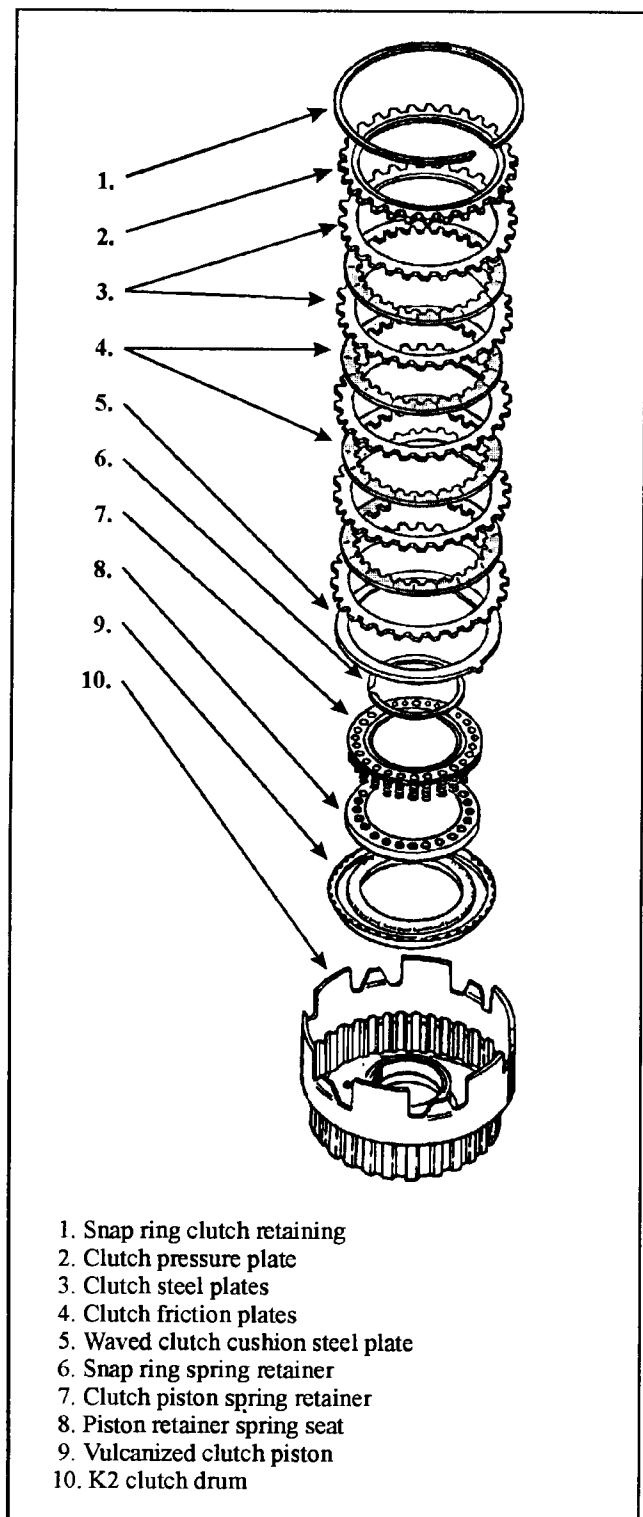

Figure 75
17. Remove the pressure plate along with the steel plates the friction plates and the waved cushion steel plate (See Figure 75).